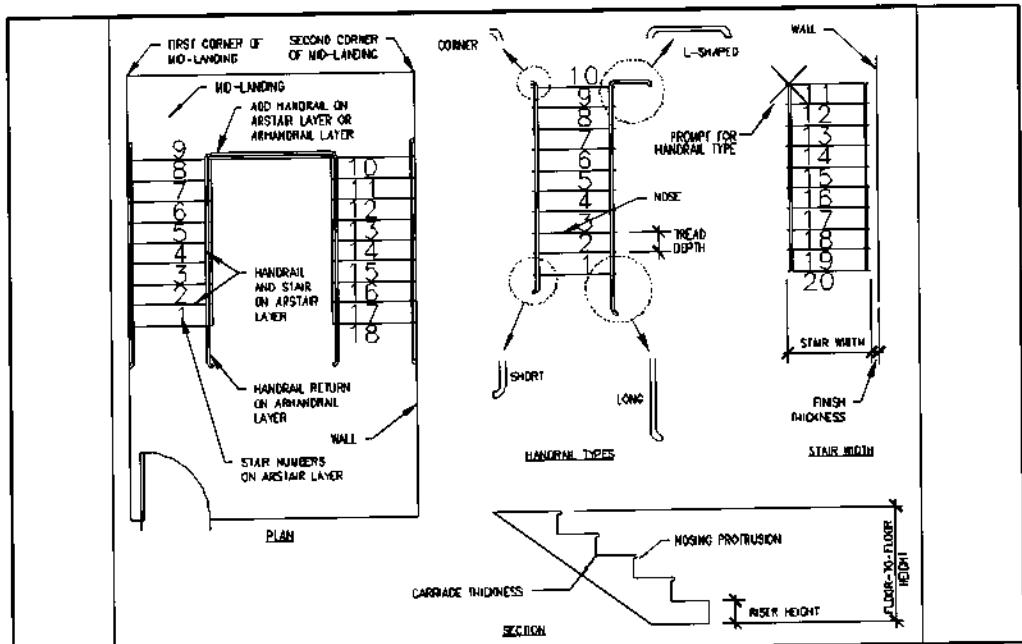
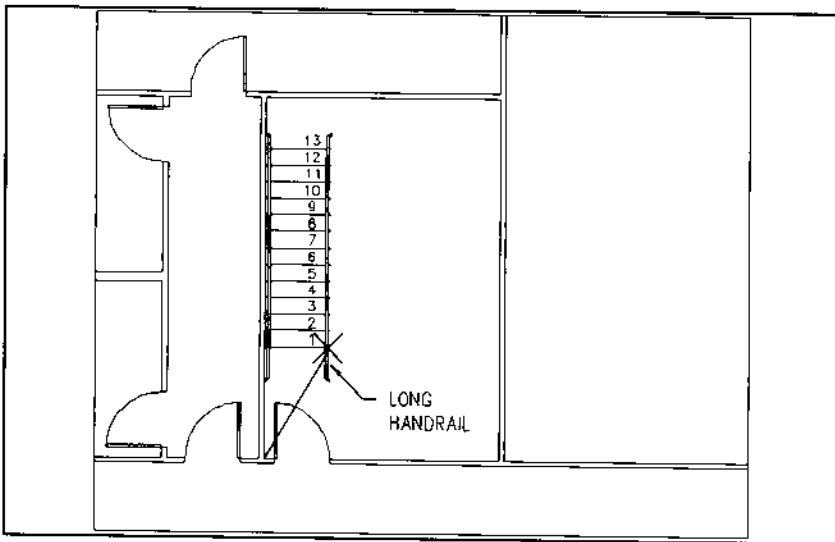

Figure 47.
Figure 58.
1. Stair terms and handrail types are shown in Figures 47 and 48.
6. An X appears at each corner of the stair, as shown on Figure 58, for inserting a handrail type. Select from the side screen menu the long handrail type for the bottom and short handrails at the top of the stairs. There are five handrail return types: short, long, L-shaped, corner, and user (not shown in Figure 47). The user option must be a block that you created before executing the stair routine.
- > Enter handrail type Long/Short/L-Shaped/Corner/User/ Again: L **[as shown in Figure 58, bottom right handrail]**